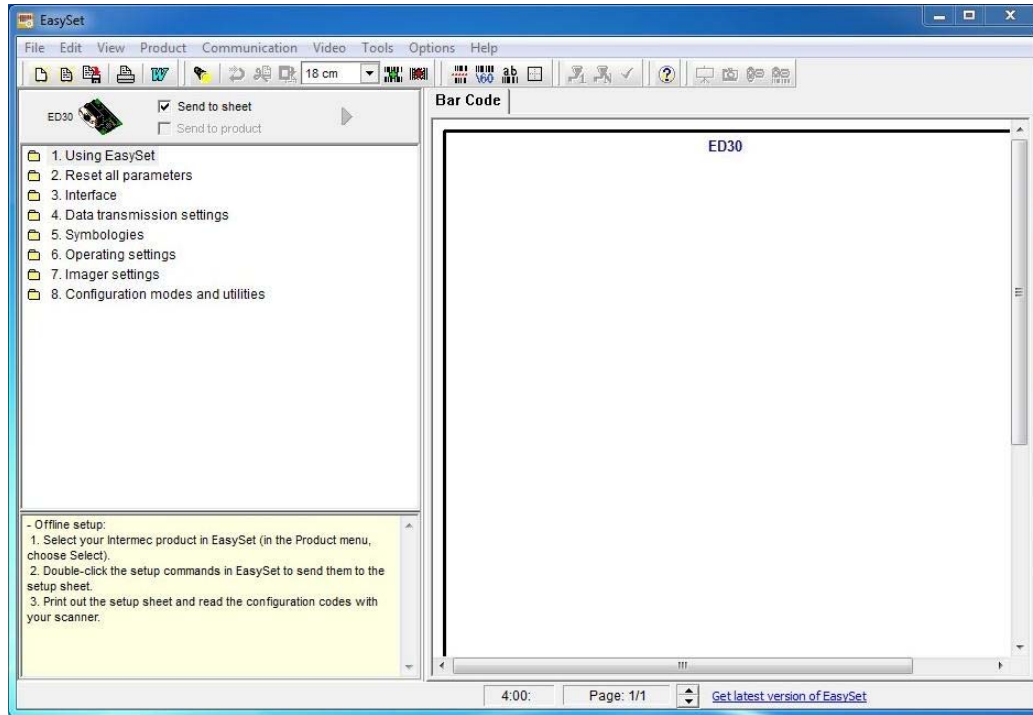

Figure 3-14: EasySet Window
- Step 5:** Double click the **EasySet** icon on the desktop. The EasySet window appears (Figure 3-14).